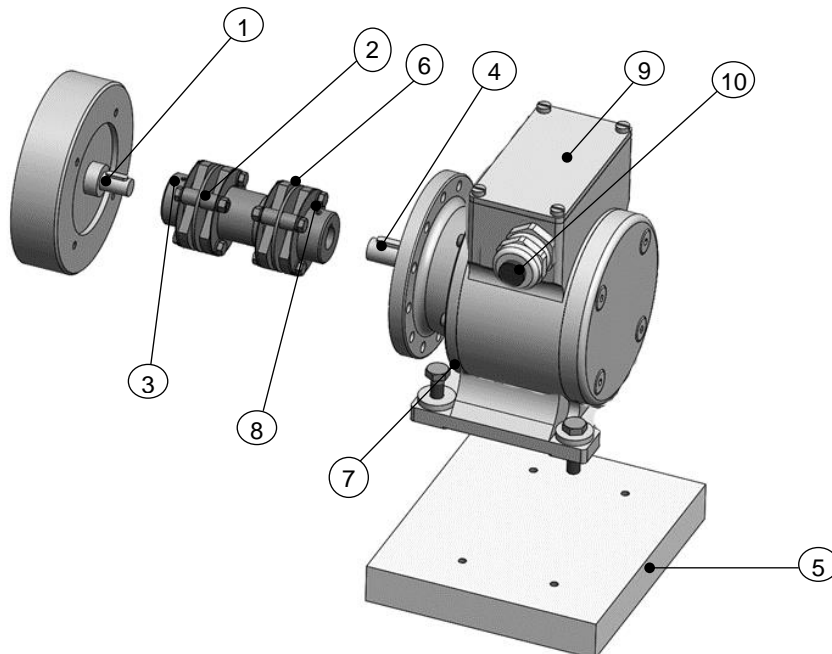

Fig. 3-2: Example design B35
3. Open the junction box cover (9) (Fig. 3-2).
4. Remove the locking bolts on the cable gland (10) (Fig. 3-2).